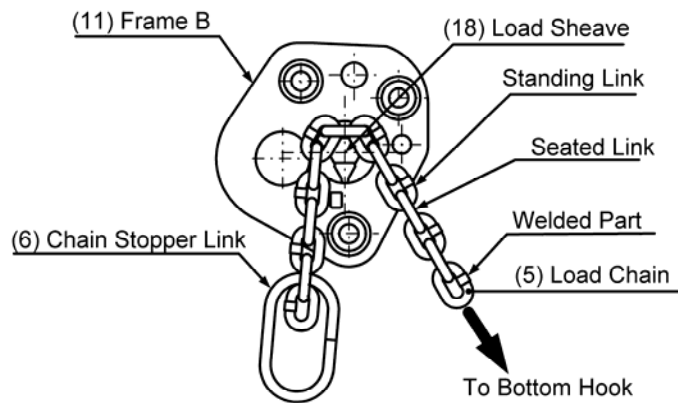

Figure 5-5 Load Chain Reeving Direction
- 2) Fasten (5) Load Chain to the bottom hook assembly as shown in “5.8 Hook & Load Chain.”
- 3) With (6) Chain Stopper Link in correct direction, no twisted links on (5) Load Chain, and the chain welded part directed outward, set the chain onto (18) Load Sheave correctly as shown in Figure 5-5.